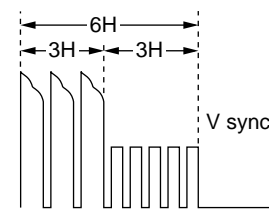

Figure 6.1.1
- 4) Select the address 30h, set the sync slope of oscilloscope to (-), adjust the data with "REW" and "FF" so that the interval between the trigger point and the V sync signal is set to 6H, and fix the data with the "PLAY" button. (See Figure 6.1.1.)